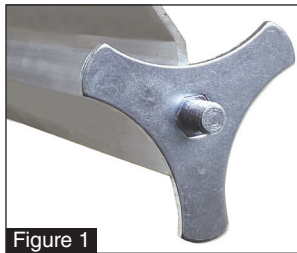

Figure 1
2. Place the gauge on the end of the head with one endpoint down, in line with the head shown in *figure 1*, followed by a lock washer. Secure with the included wingnut.